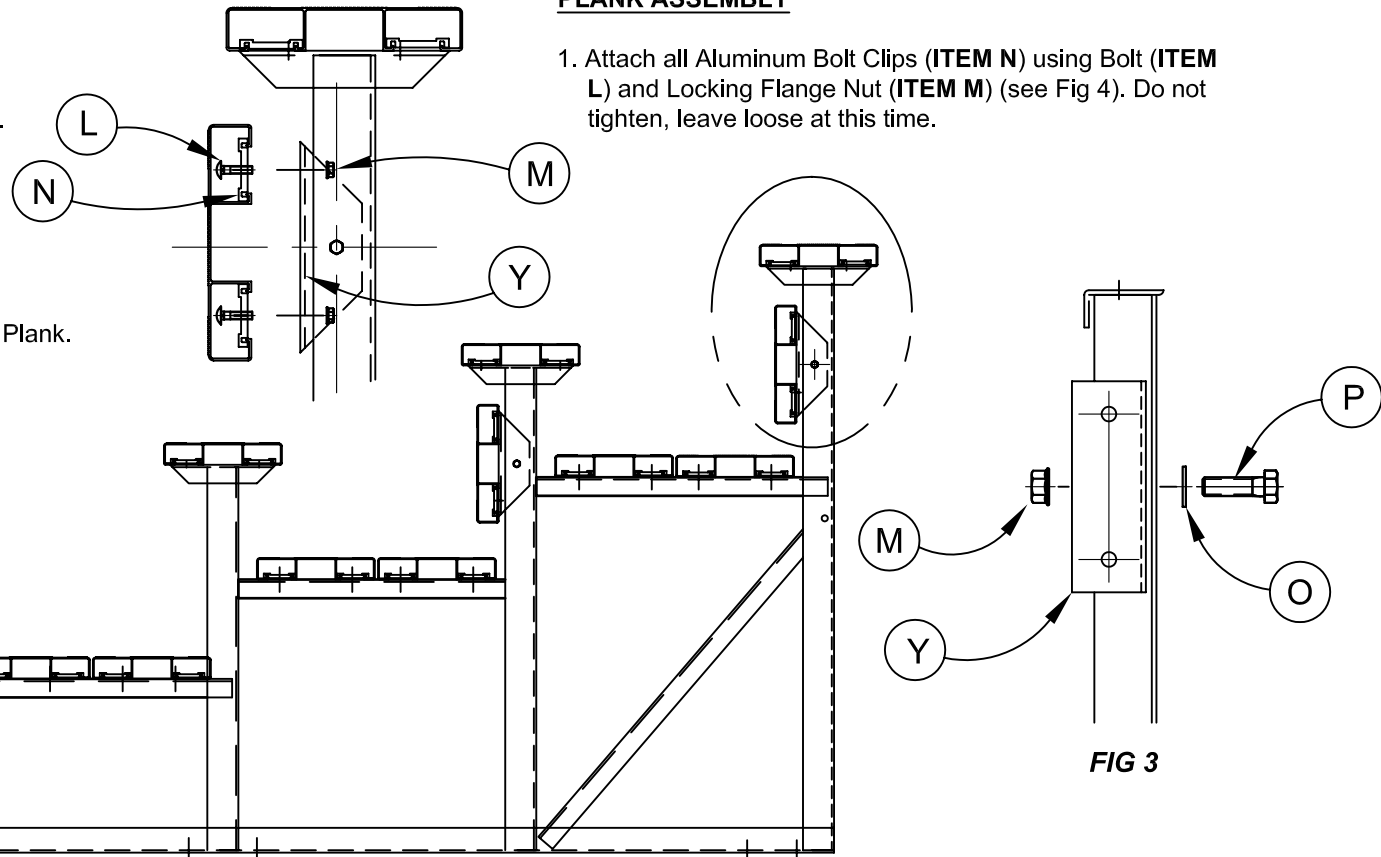

FIG 3
1. Attach Riser Brackets (ITEM Y) using Bolt (ITEM P), Washer (ITEM O) and Locking Flange Nut (ITEM M) (See Fig 3).